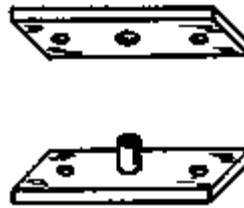

Fig. 5
- **PIVOT HINGE:** For windows, we sometimes use pivot hinges. These consist simply of a plate with a pin, which fits into a hole in another plate (Fig. 5, page 218).